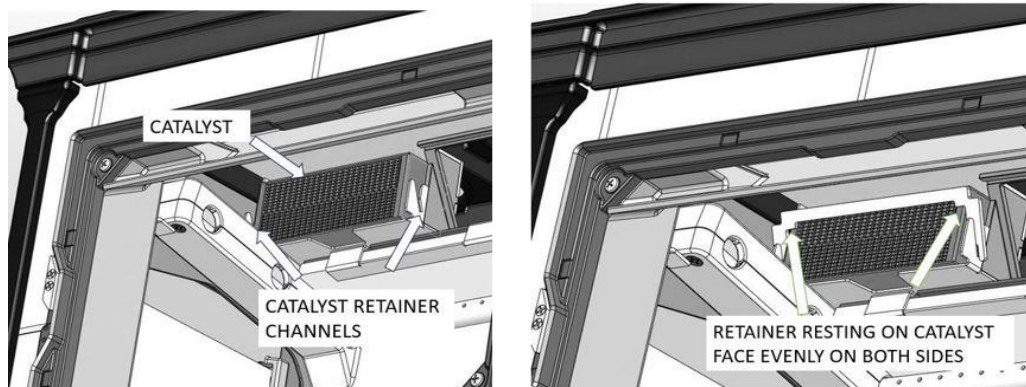

Figure 21 – Catalyst Retainer Removal / Installation
9. Some warping or bowing of the catalysts over time is acceptable. Measure the catalyst in the middle section – if the dimensions are outside the range shown in Figure 21 above, replace the catalyst.